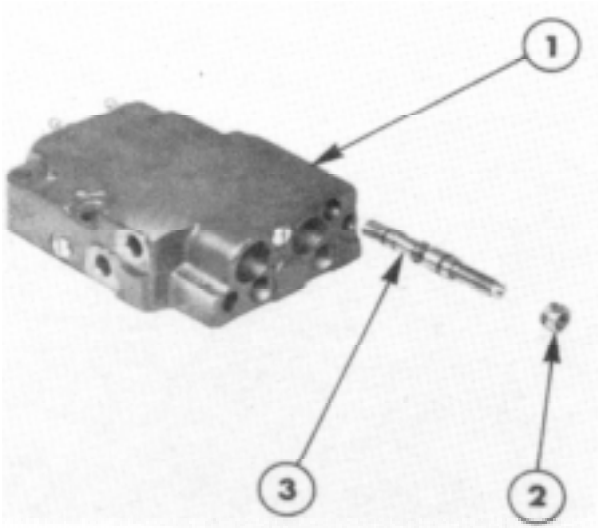

Figure 14
1. Unscrew the "quick drop" valve retaining sleeve from the remote control valve Figure 14.